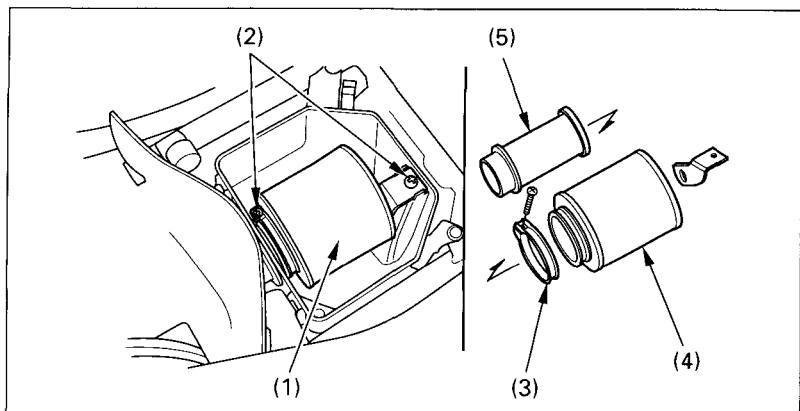

Fig. 4-5 (1) Air cleaner assembly (4) Air cleaner
4. Remove the screws (2) (Fig. 4-5) and remove the air cleaner assembly (1) from the air cleaner housing.
5. Unscrew the clamp (3).
6. Remove the air cleaner (4) from the air cleaner body (5).